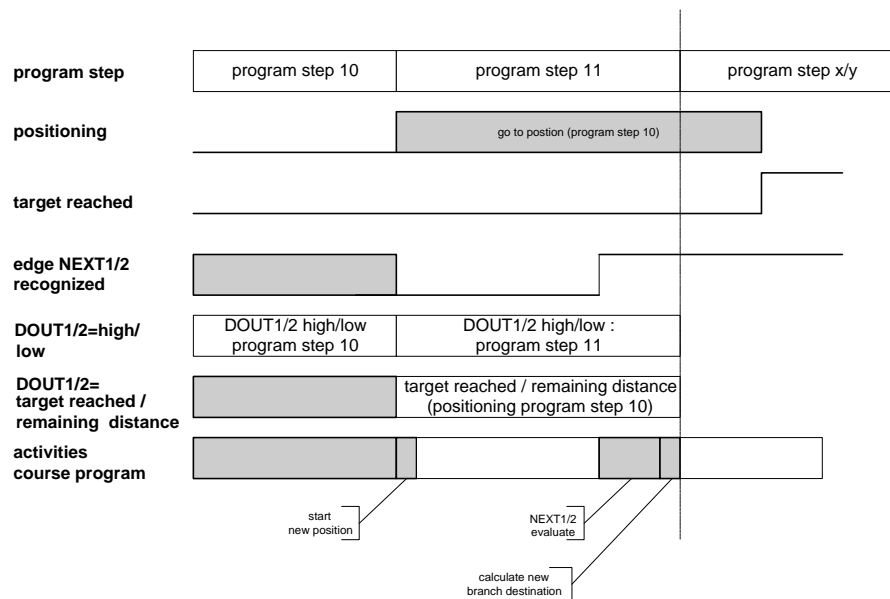

Figure 21: Branch (Line) time diagram
In Figure 21 it is assumed that a positioning run was started in program step 10. When the positioning run is started (10), the course program switches to the next state.